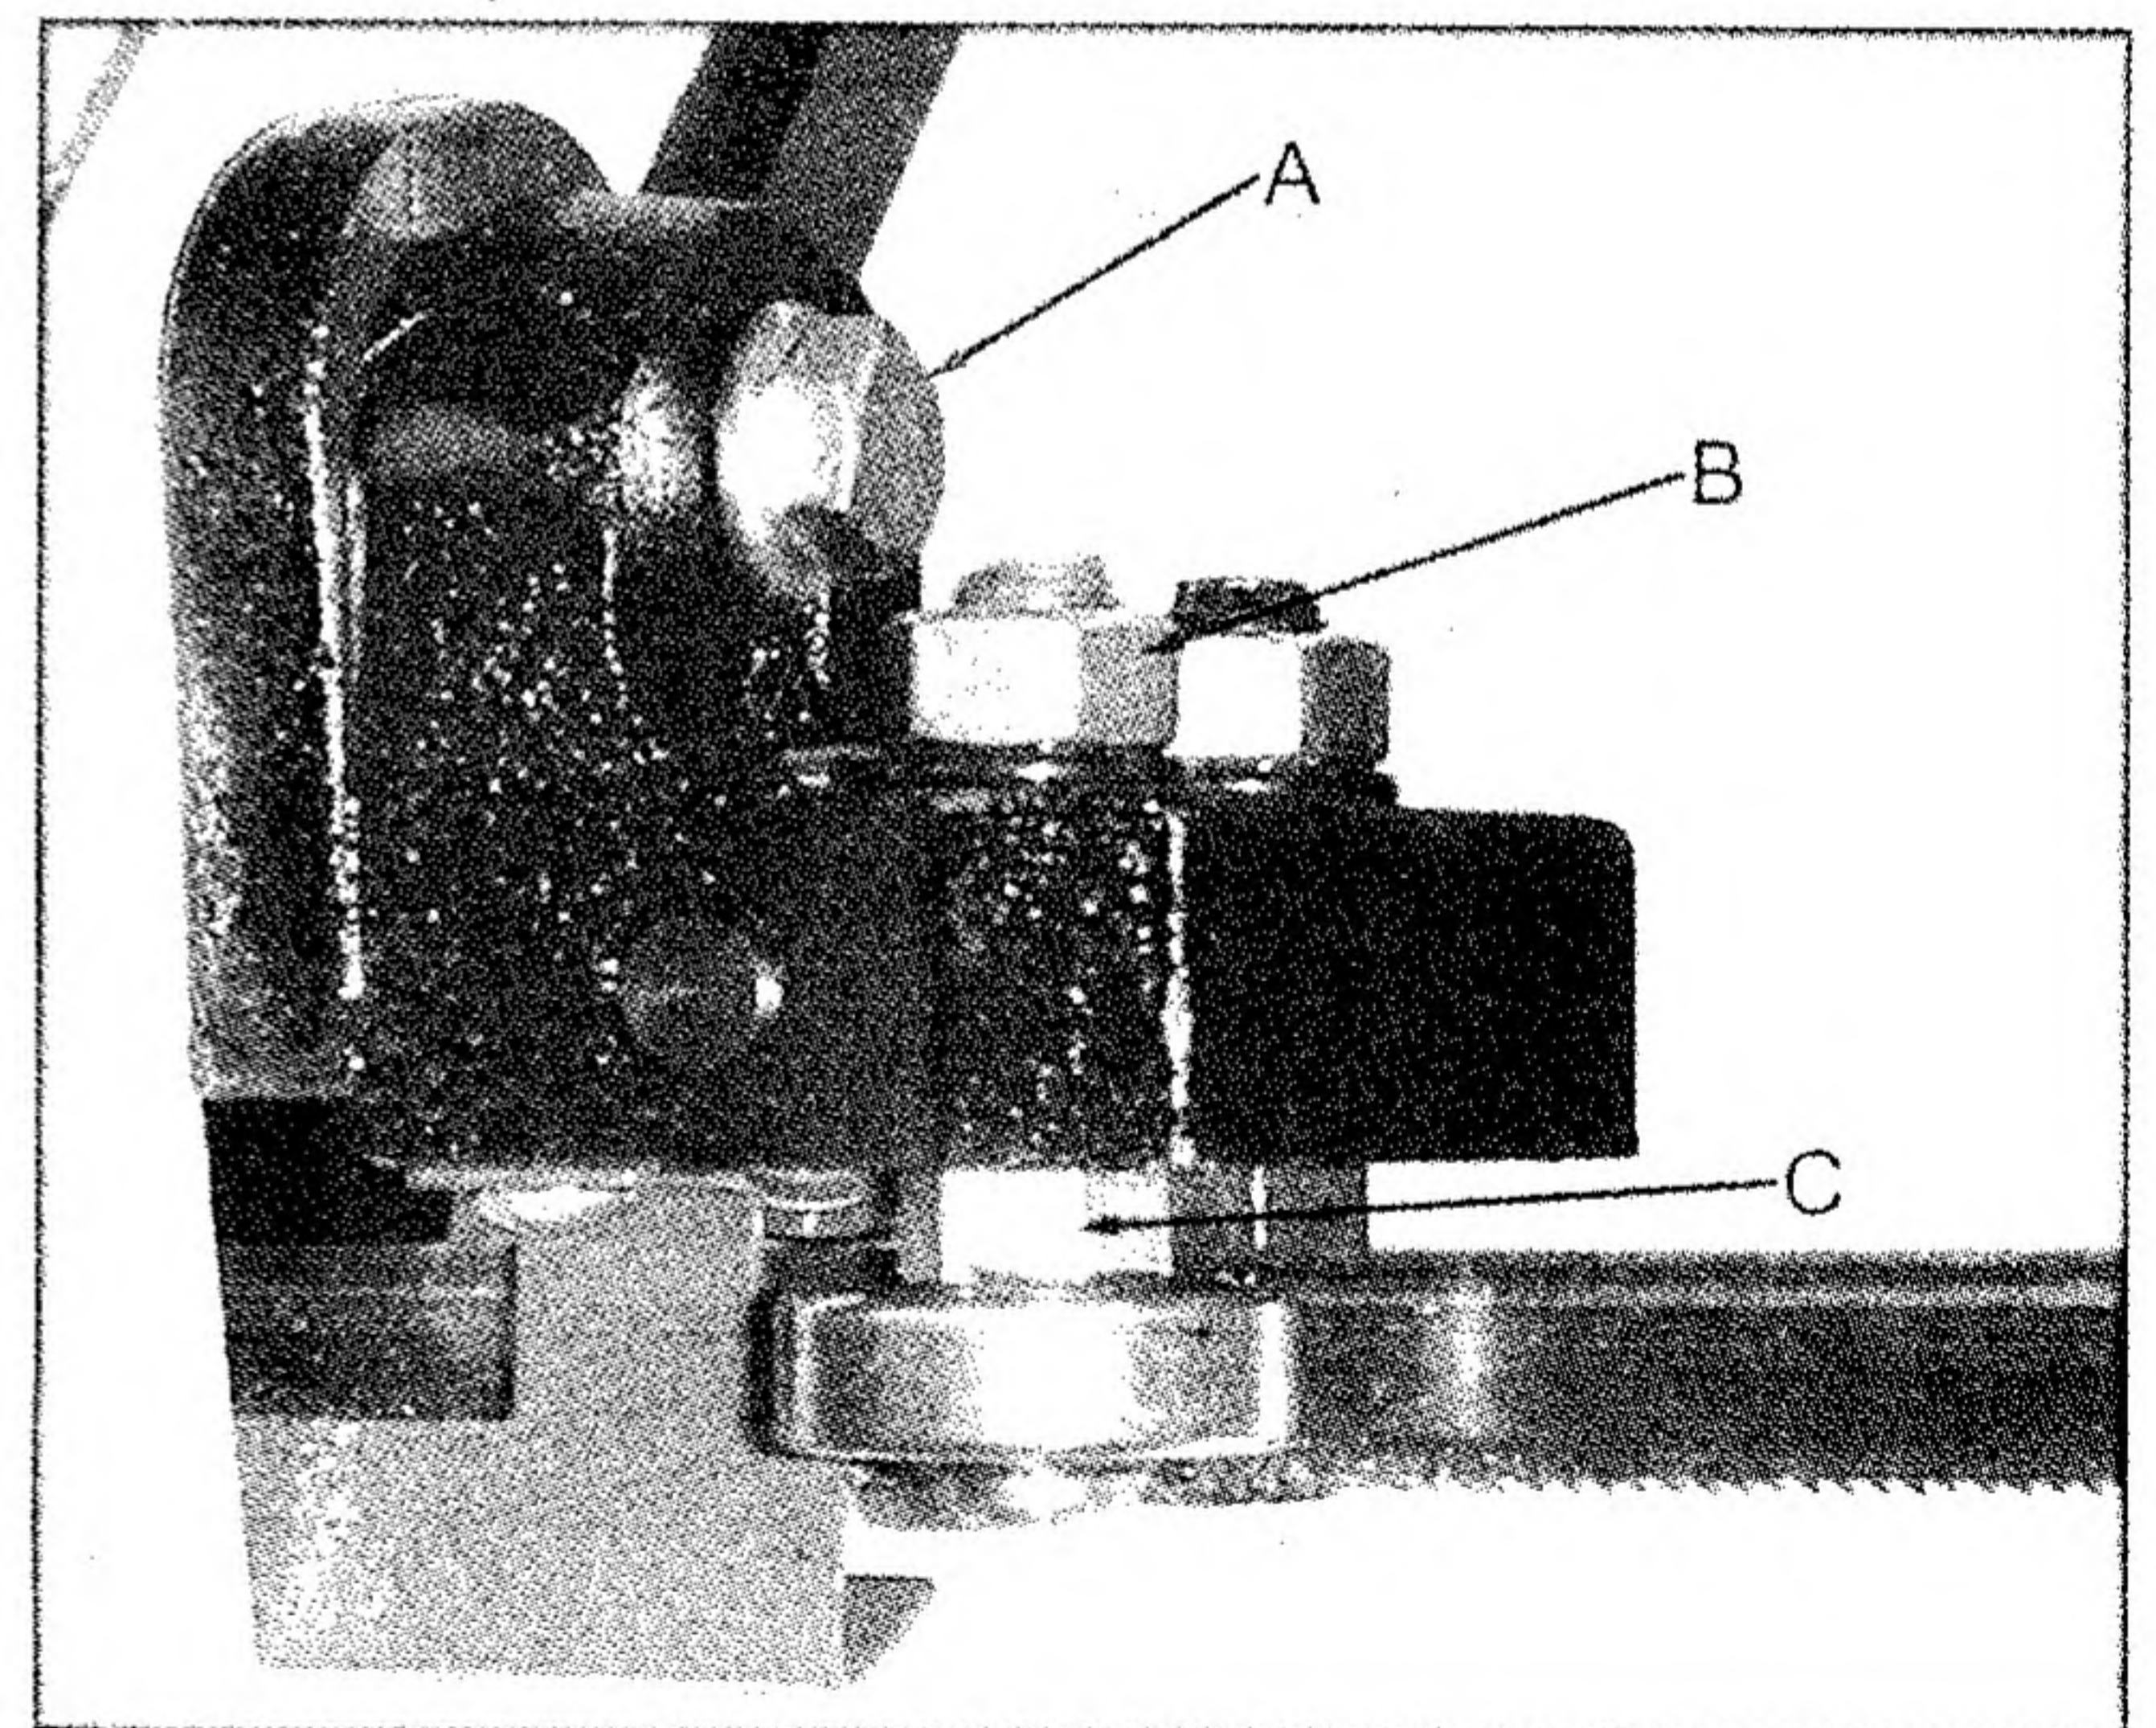

Fig. 14
2. Loosen bolt (A, Fig. 14) and adjust assembly so that back roller bearing is approximately .002" - .003" from the back of the blade. Tighten bolt.
3. Loosen nut (B, Fig. 14) and turn nut (C, Fig. 14) to adjust eccentric bearing to a clearance of .001". Tighten nut (B, Fig. 14) to lock.